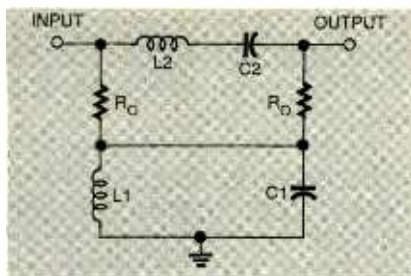

Fig. 10. Here's a practical bandpass diplexer design intended for use with mixers. Values are calculated using the equations in the text.
Diplexer Design. Figure 10 shows a practical bandpass diplexer design intended for use with mixers. The values of the R_0 resistors is the system design impedance (50 ohms in most cases). The values of L_1 , L_2 , C_1 , and C_2 are determined by the center frequency (f_0) of the desired pass band. The Q of the filter is f_0 divided by the necessary bandwidth (BW). The values of these components for